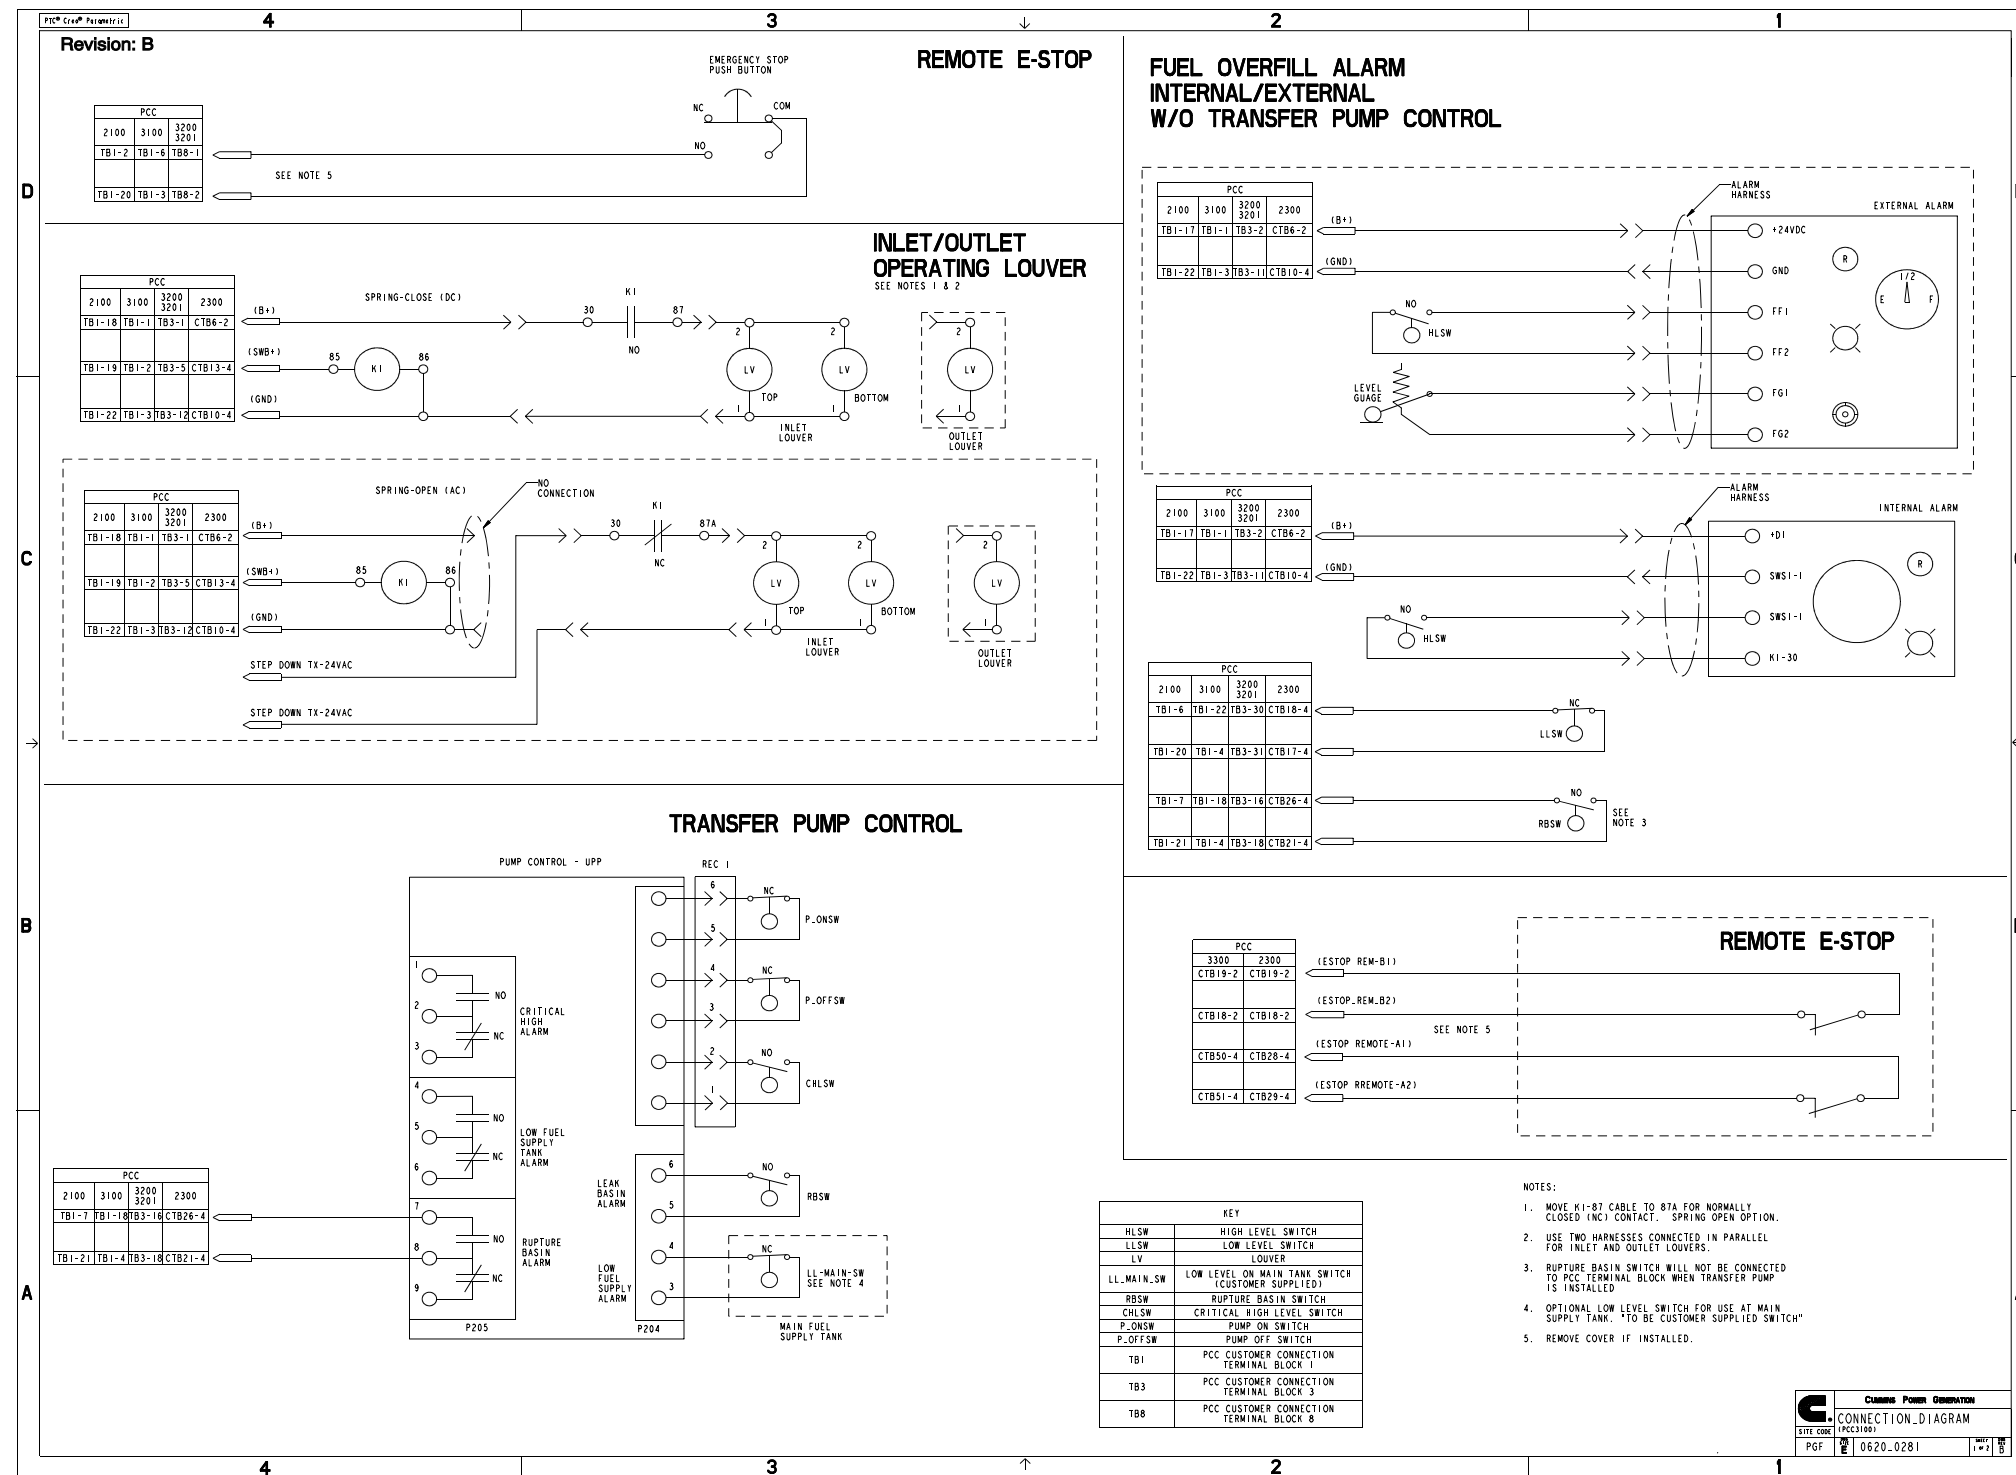

FIGURE 94. WIRING FOR OPTIONS (SHEET 1 OF 2)
- Figure 94. Wiring for Options (Sheet 1 of 2) 166